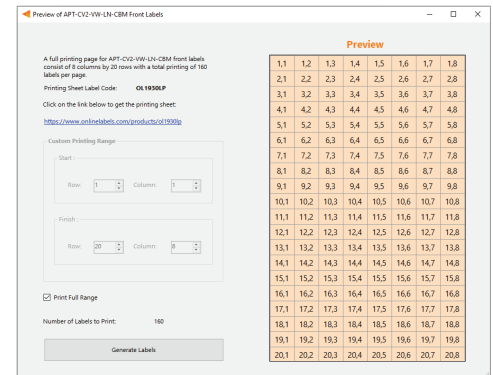

Figure 13: Label generation print preview window
- 5 Input the starting and finishing rows and columns that will fit on the back or front labels. The selected range is highlighted in blue (Figure 13).
- 1 Select **File > Generate Report**, or press **Ctrl+R**, to open the Report Generation Window (shown in Figure 13).